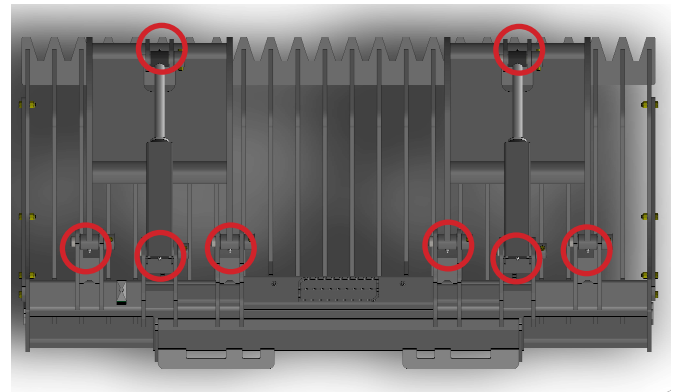

Figure 1
The Extreme Duty Rock Bucket Grapples have eight (8) grease points. These points are circled in Figure 1.